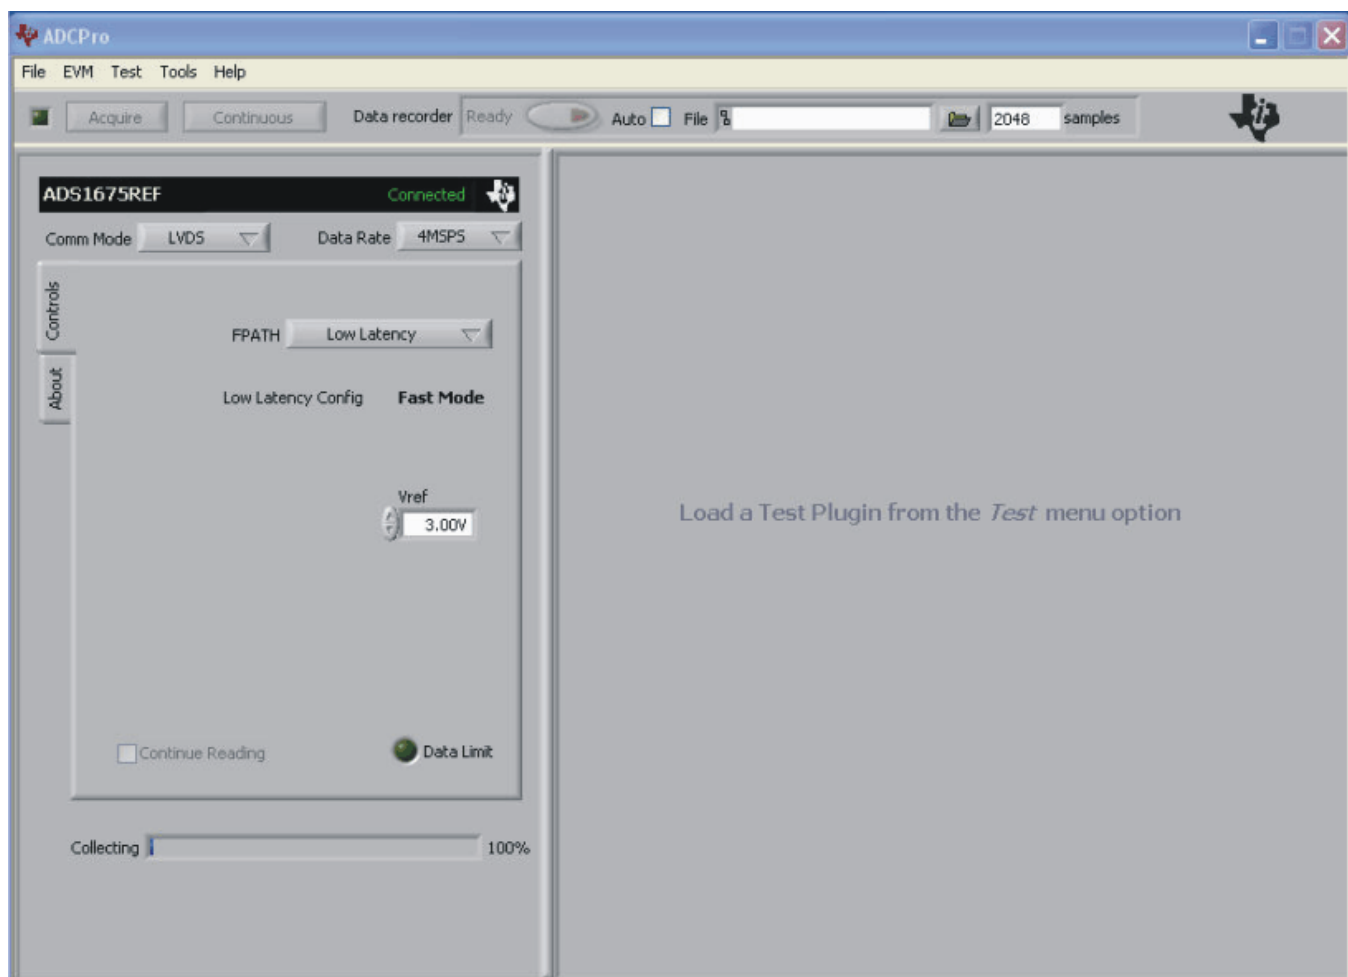

Figure 4. ADS1675REF Plug-in Display Window
- Step 2. Select ADS1675REF from the REF drop-down menu. The ADS1675REF plug-in appears in the left pane, as shown in Figure 4.
The ADS1675REF plug-in for ADCPro provides complete control over all settings of the ADS1675. It consists of a tabbed interface (see Figure 4), with all of the functions available on the main tab. The controls on the main tab are described in this section.